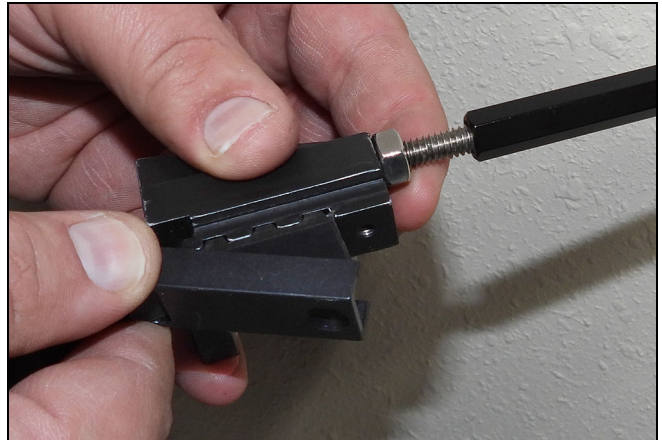
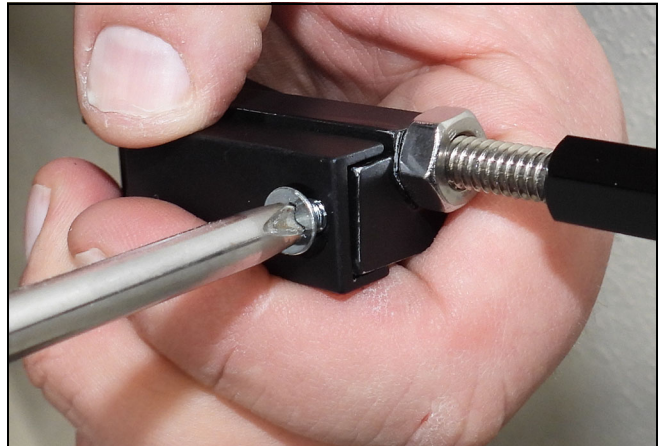

Figure 34
Figure 35
3. Attach belt on panel bracket and fasten with #8- 32 x 3/8" screw. See Figure 34, Figure 35, and Figure 36.